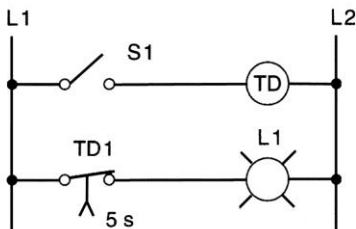

Figure 7-3 Hardwired circuit for question 4.
4. In the hardwired circuit of Figure 7-3, the light will stay on 4. _____